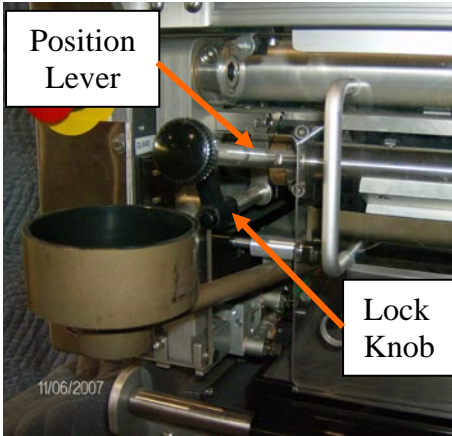

Figure D3-1: Doctor Blade
2. Verify that the doctor blade system stop pin is set correctly and that the doctor blade carrier is rotated properly against this stop pin (See Figures D3-1 & -2).